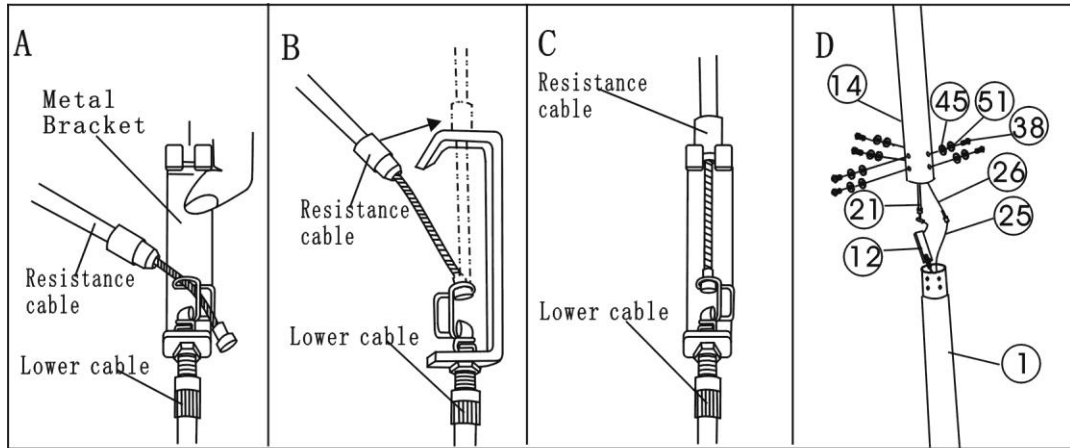

Figure 3
a. Put the end of resistance cable (21) into the spring hook of Tension control wire (12) as shown on drawing **A** of figure 3
b. Pull the resistance cable up and force it into the gap of metal bracket of Tension control wire (12) as shown on drawing **B** of figure3
c. Connect the resistance cable with the Tension control wire (12) completed as shown on drawing **C** of figure 3
Connect the computer wire (26) to the Sensor wire (25) coming out from main frame (1). Insert the Front upright frame (14) to the main frame (1) and secure it with six pcs of Bolts (38), Φ 8 Spring washers (51), and Arc washers (45) as shown on drawing **D** of figure 3.